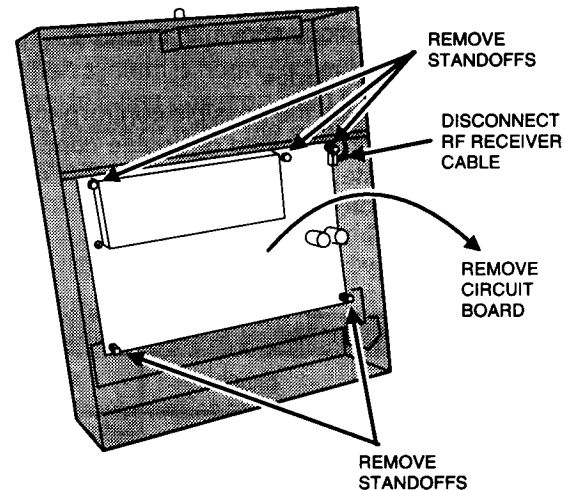

Figure 53. Removing Circuit Board from Terminal Board
**STEP 2** Remove circuit board from terminals. Using a 1/4" nutdriver or pliers, remove the five standoff posts from the circuit board. Disconnect the RF receiver connector. From the bottom edge of the circuit board, carefully pry the board free from the terminal board (see Figure 53). Be careful not to lose the five nylon spacers on the screw posts. Set the circuit board on your workbench or table.